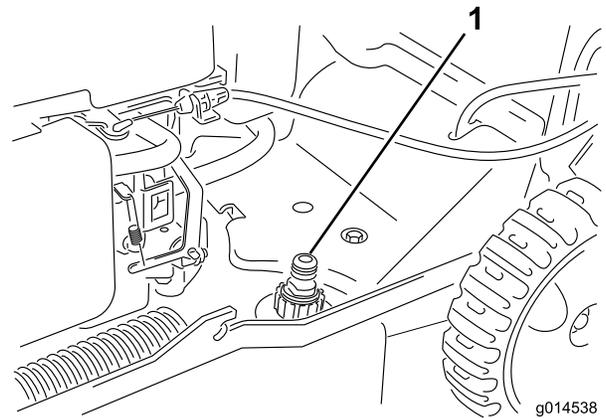

Figure 27
- Attach a garden hose that is connected to a water supply to the washout port (Figure 27).